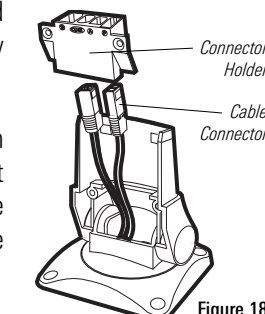

Figure 18
2. Carefully pull the excess cable from beneath the mounting surface so that the connector holder aligns with the mounting holes on the front of the mounting bracket (Figure 18).